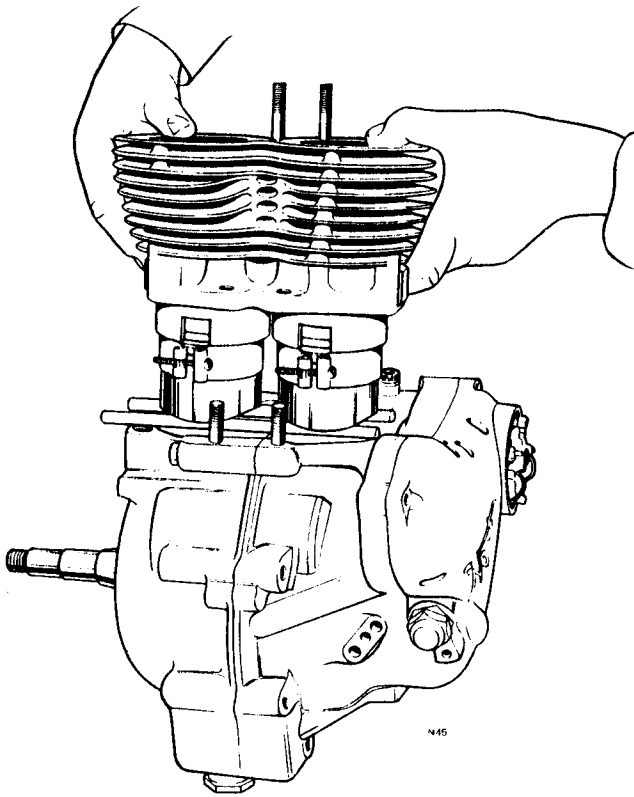

Fig. C42 Fitting cylinder over pistons. Note piston supporting bars and ring clamps in use
- 7 Turn the engine crankshaft backwards to lower the pistons, then support the pistons as in Fig. C42 on two suitable bars which must not overlap the timing case.
- 10 Smear both piston bodies with clean engine oil. Fit piston ring clamps (also shown in Fig. C42) to keep the piston rings closed. Do not overtighten the ring clamps which would tend to prevent the ring clamps sliding as the cylinder is offered.
- 11 Offer the cylinder over the pistons as shown in Fig. C42, pushing the cylinder down to slide the ring clamps down quickly. The pistons are now entered in the cylinder bores.